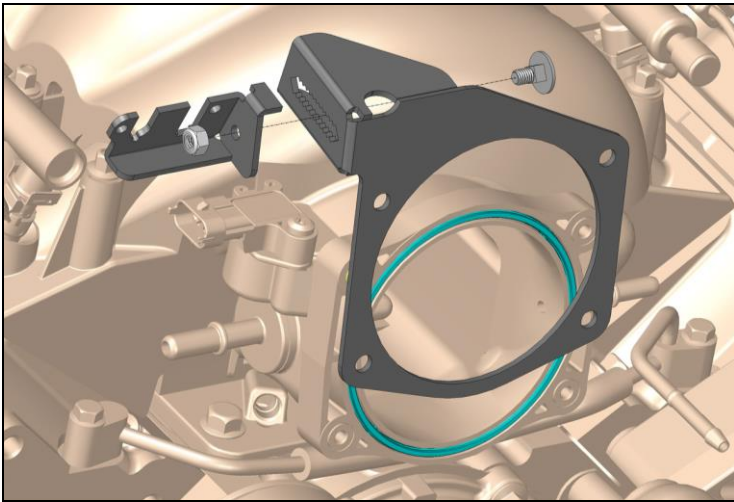

Figure 1
1. Assemble as shown in **Figure 1**.